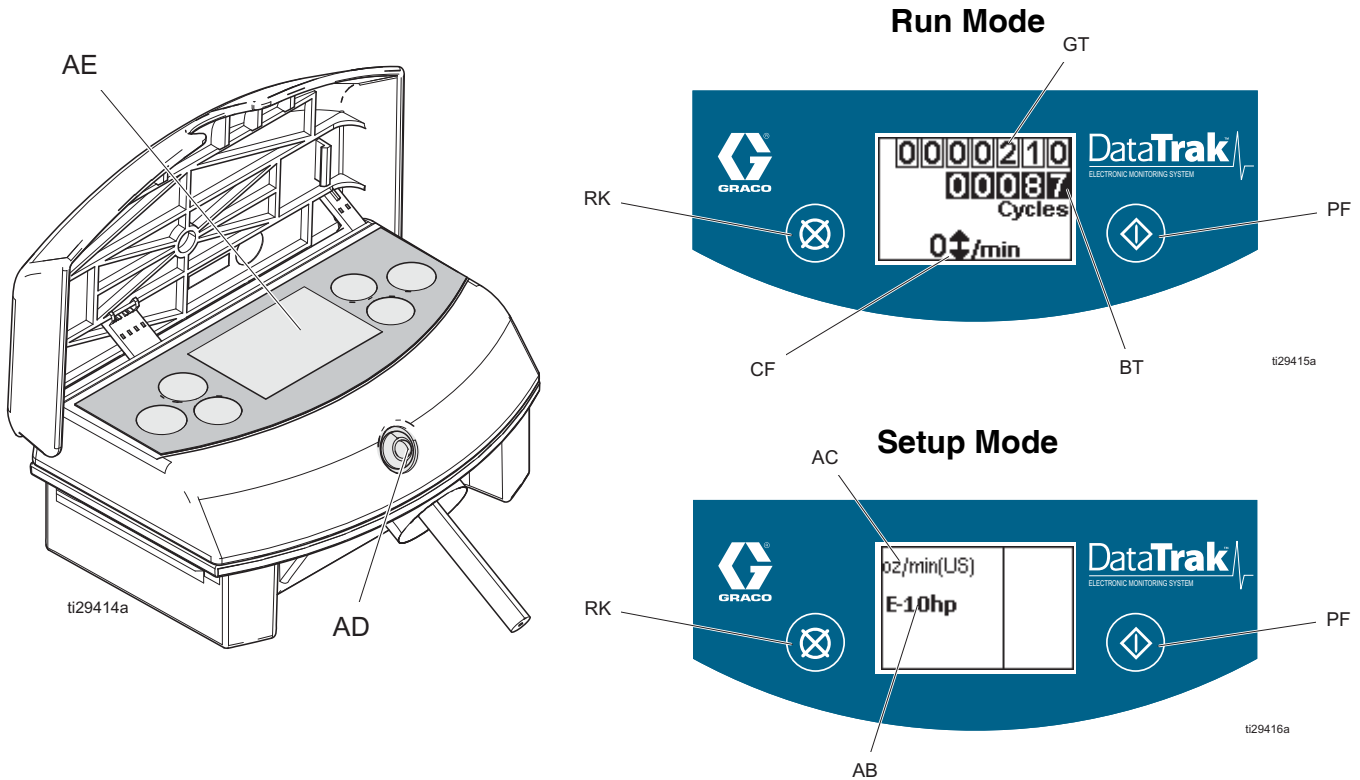

FIG. 5
1. See FIG. 5, page 6. Press and hold  for 5 seconds until Setup menu appears.
- Set system type (AC).
3. Move the cursor to the system type field (AC), then press  once more to exit Setup mode.
1. See FIG. 5, page 6. To enter Prime/Flush mode, press any key to wake up the display, then press . The Prime indicator will appear in the display and the LED will flash.
1. See FIG. 5, page 6. The last digit of the batch totalizer (BT) represents the tenths of gallons or liters. To reset the totalizer, press any key to wake up the display, then press and hold  for 3 seconds.
See FIG. 5, page 6. The display (AE) will turn off after 1 minute of inactivity in Run mode or 3 minutes in Setup mode. Press any key to wake up the display.